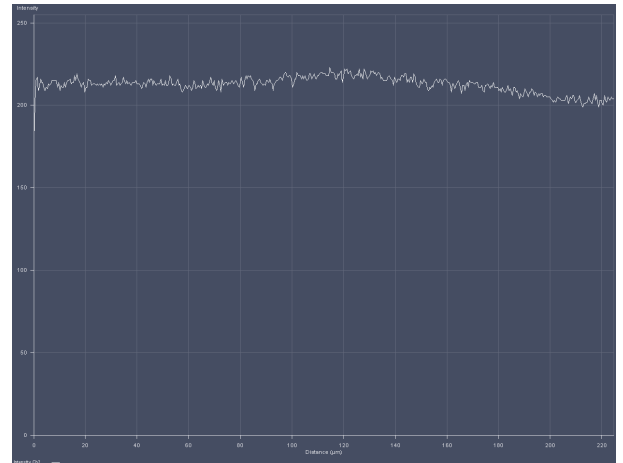

Fig. 286 Line diagram at lower cover slip surface
- Continue moving upwards slowly. The line position will reach its maximum (Fig. 286).